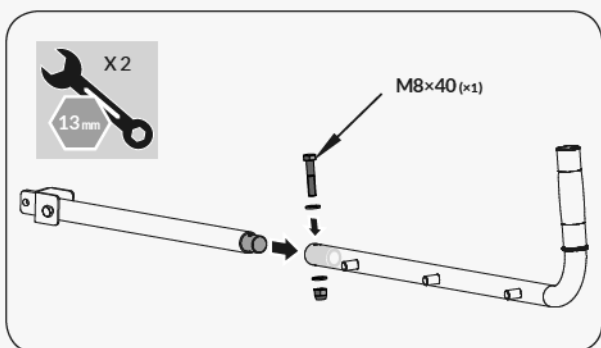

Figure 8c
- Insert the shorter control lever into the longer lever. Align holes and fasten with M8×40 hex bolt, washers and nut. (See **Figure 8c**)